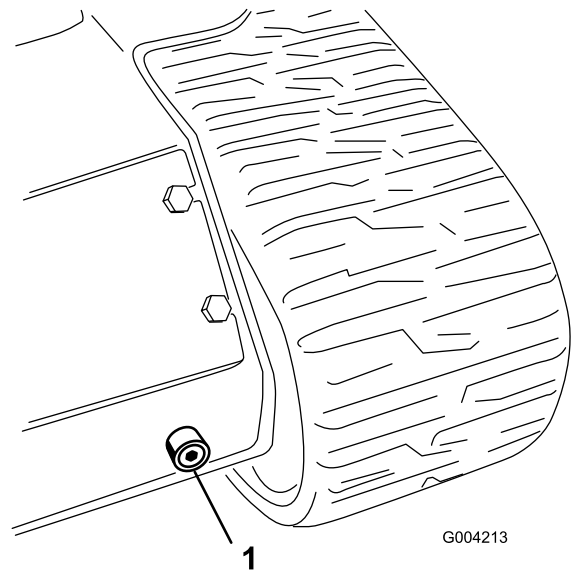

Figure 66
6. Place a large drain pan capable of holding 57 L (15 US gallons) under the drain plug on the front of the machine (Figure 66).
7. Remove the drain plug and allow the oil to drain into the pan (Figure 66).